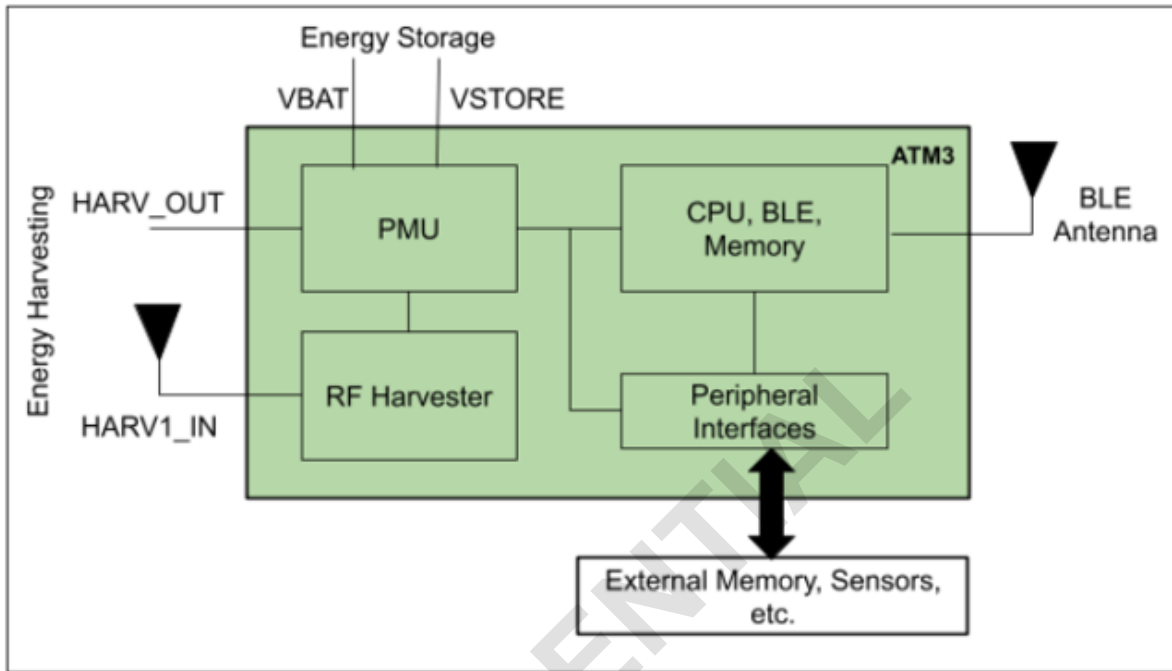

Figure 1 - PMU Energy Harvesting Block Diagram
- Figure 1 - PMU Energy Harvesting Block Diagram
The ATM3's integrated Power Management Unit (PMU) is responsible for the dynamic management of energy between the sources (harvesters and storage elements) and sinks (Bluetooth LE system and peripherals). A high level depiction of the PMU in the ATM3 is shown in the Figure 1 below.